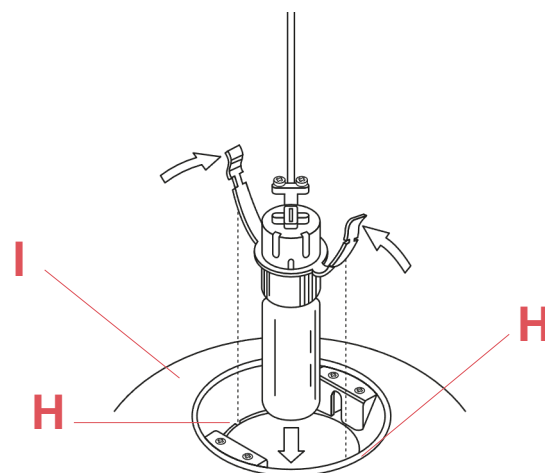

Fig.8
- Insert the bulb. Insert the bulb-holder in its housing (H) in the diffuser (I).(Fig.8)